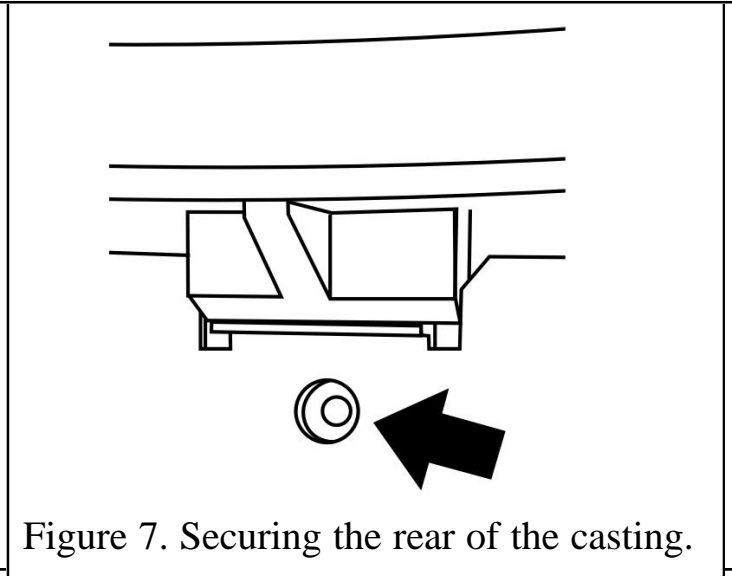

Figure 7. Securing the rear of the casting.
- At the top rear of the burner unit there is a hole. Secure the rear of the casting using the screw supplied (See figure 7). It may be necessary to apply pressure to the top of the casting to line up the holes.